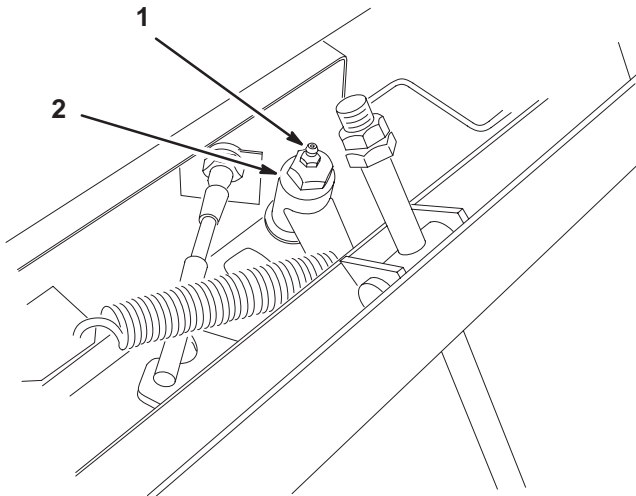

Figure 29
4. Loosen the locknut on the adjustment cam (Fig. 29).
5. Start the engine and rotate the adjusting cam in either direction until the wheels stop rotating (Fig. 29).
6. Stop the engine and tighten the locknut to secure the adjustment (Fig. 29).